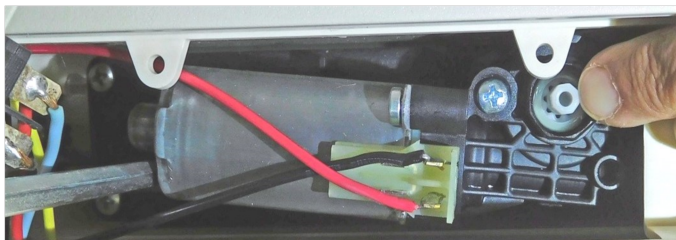

Figure 14
- **Push and hold the white motor release button indicated in the photo in Figure 14.**